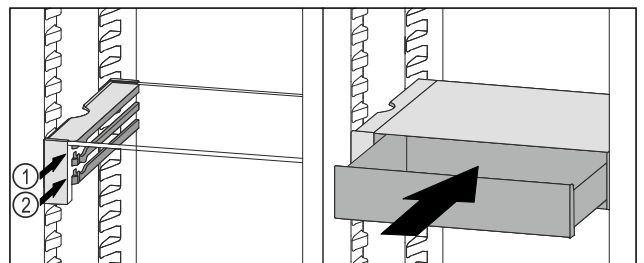

Fig. 154
- Place the VarioSafe drawer behind the stoppers on desired rib Fig. 154 (1) or Fig. 154 (2).